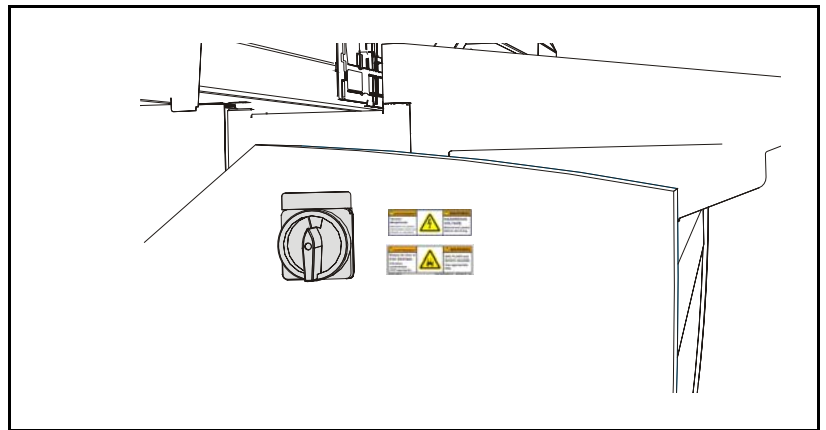

Figure 1-7. Sign at the main switch.
- One sign at the main switch, see Figure 1-7.
This label, Arc Flash (see figure), is mounted under the warning sign for electric shock, see Figure 1-7.